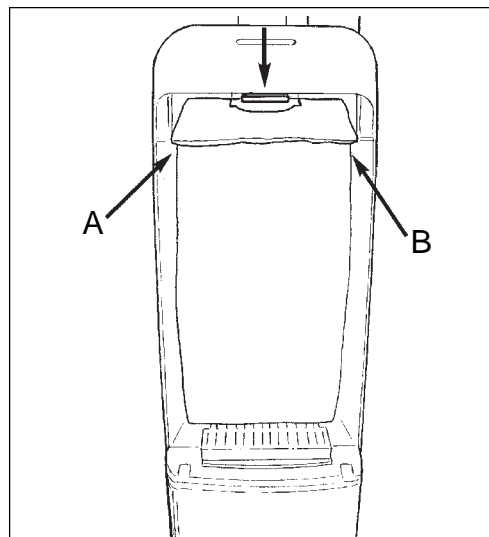

Figure 19
3. Grasp cardboard inlet on both sides of the bag (see points A and B on figure 19) and slightly rotate and pull bag out.
- e. Make sure the cardboard is pushed all the way on the bag adaptor (figure 19) or the door will not latch.